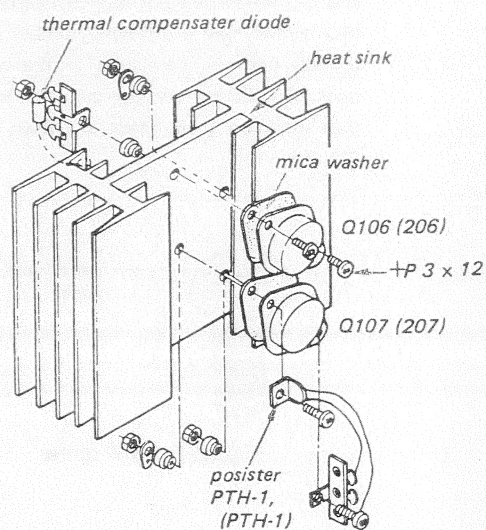

Fig. 2-5 Power transistor replacement (2)
4. Remove the defective power transistor by loosening the two screws (+P 3 X 12) securing it to the heat sink. See Fig. 2-5.